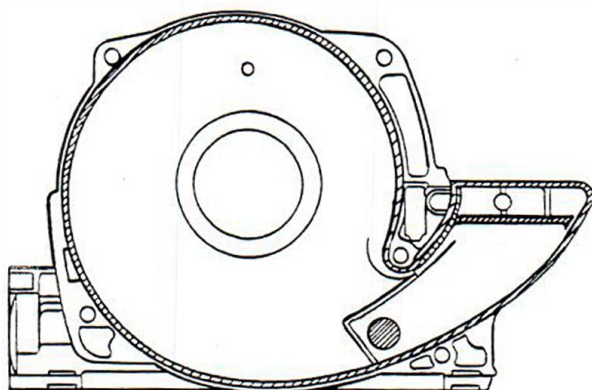

Figure 16. Fan Case Sealant Application
4. Prior to reassembly of fan case, clean old sealant from joining surfaces and apply new sealant as shown in Figure 16.